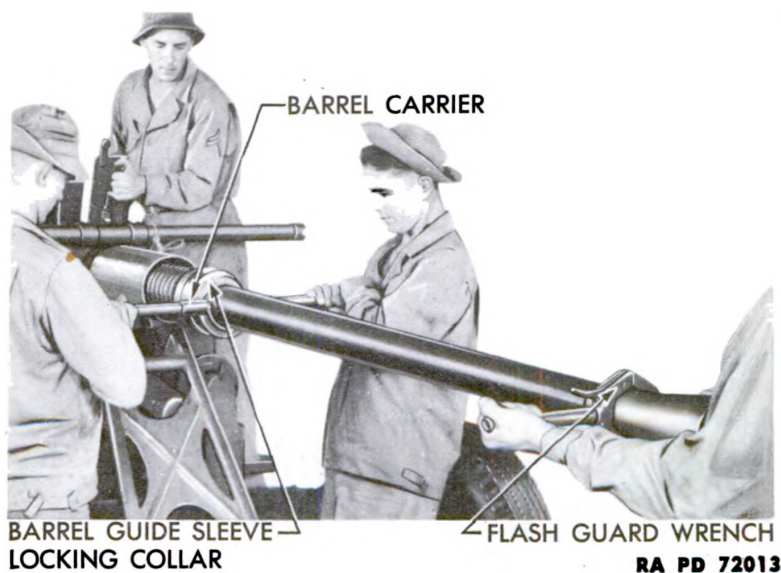

Figure 123 — Barrel Assembly — Removal
(6) Withdraw the barrel assembly straight forward from the breech casing (fig. 123), with the men supporting the barrel carrier exercising caution that the interrupted threads on the tube do not come in contact with the breech casing as the barrel guide sleeve slides from the casing.